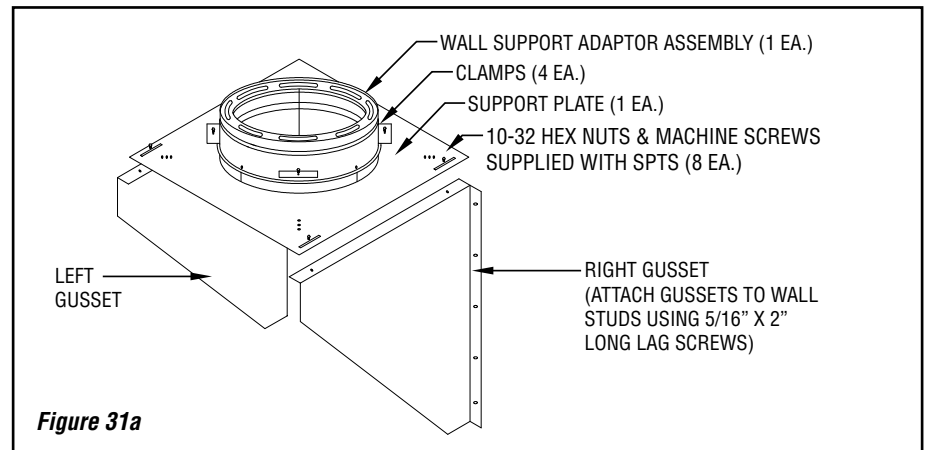

Figure 31a
7. Attach wall support plate to wall support adaptor using 4 clamps provided. Do not tighten. (See **Figure 31a**).
9. Install the tee cap to the bottom of the wall support adaptor with a minimum of two (2) #10 x 1/2" sheet metal screws.